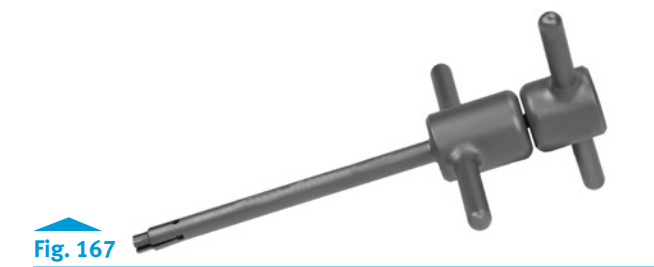

Fig. 167
- Attach the new hinge pin from the RH Knee Hinge Servicing Kit to the Expandable Hinge Pin Driver (Fig. 167). The Expandable Hinge Pin Driver can be used to hold the hinge pin during insertion.